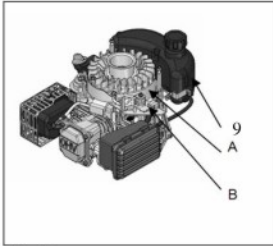

Fig. 12
4. Move the starter control handle (located on equipment) to release the flywheel brake, and verify that there is clearance between the governor arm and the throttle return rod when the throttle return rod when the throttles in the fast (or high) position. Also verify that there is at least 2 mm clearance between the stopper and the brake cable bracket. (See Fig. 12)